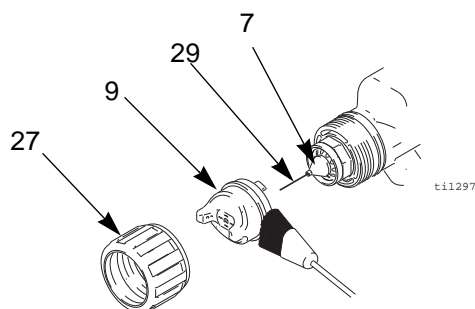

Fig. 17. Clean Air Cap and Fluid Nozzle
4. Remove the retaining ring (27) and air cap (9). See FIG. 17..